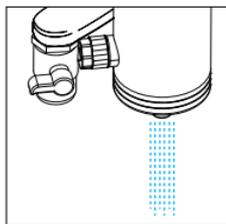

Figure 1.2
- 4 Switch the lever to the level position and run water to the system slightly. Flush it for 3 minutes during the first use. [Figure 1.2]